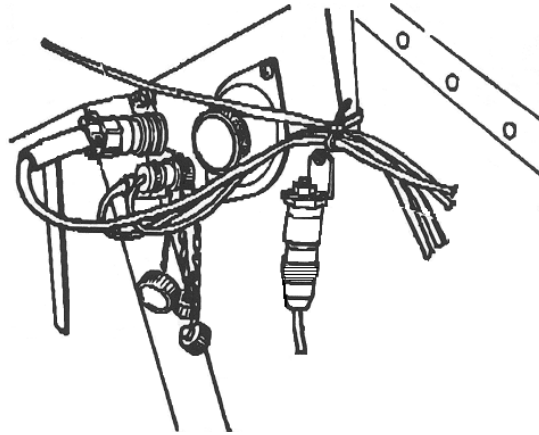

Figure 1
1. Mount the 991D-1 sensor (P/N 10-100-0075) to sensor bracket (P/N 22-430-0035) and install on the left hand side of console. Sensor connector must face down as shown in Figure 1. Connect sensor cable (P/N 20-320-0162) to sensor and route to the analyzer. Connect sensor cable to channel A of the analyzer.